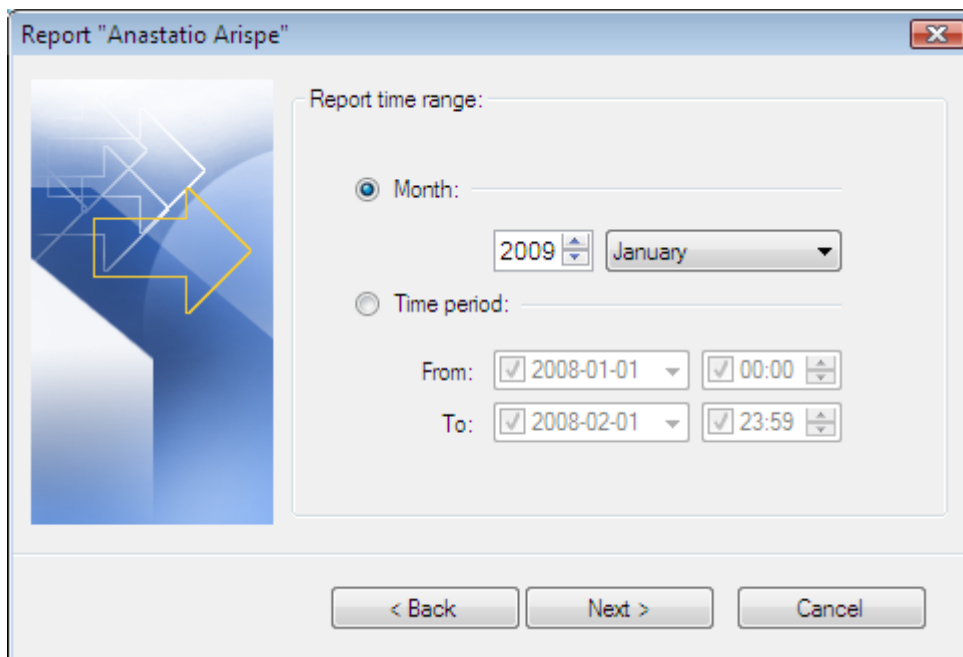

Figure 24. Selecting time range for generating selected reports
Step 2. Choose period, for which the reports selected are to be prepared (Figure 24).